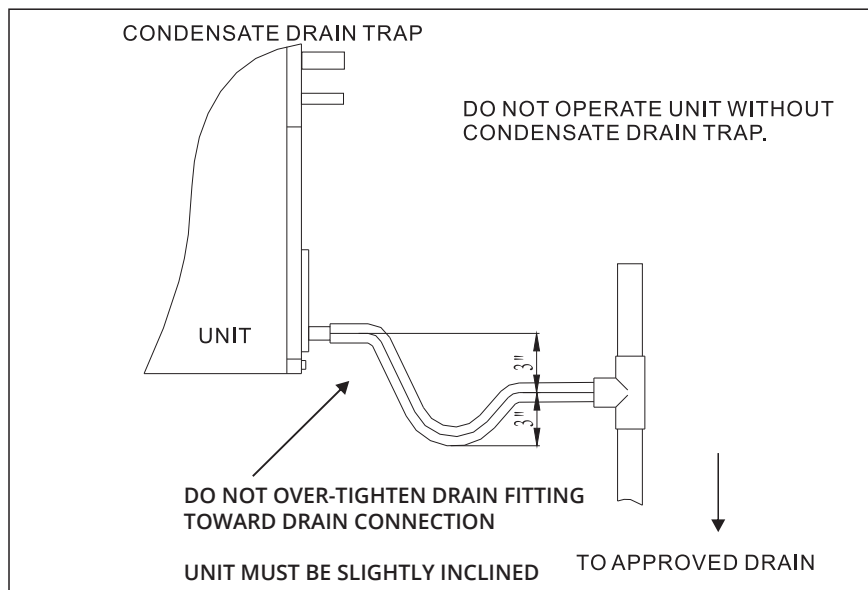

Fig. 5 Condensate Drain Trap
- Make sure unit is level or pitched slightly toward the primary drain connection so that water will drain completely from the pan (Refer to Fig. 5)
- Make provisions for disconnecting and cleaning of the primary drain line should it become necessary. Install a 3 in (76.2 mm) trap in the primary drain line as close to the unit as possible. Make sure that the top of the trap is below the connection to the drain pan to allow complete drainage of pan (Refer to Fig. 5).